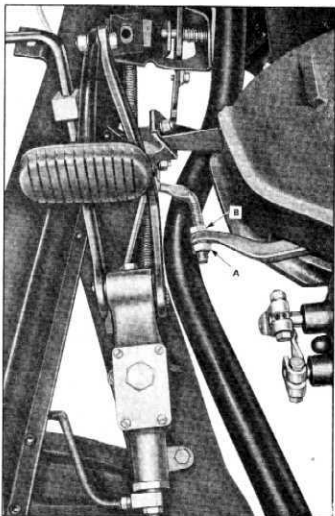

Fig. 135—Clutch Pedal Free Travel Adjustment
1. Loosen check nut "A" (fig. 135).